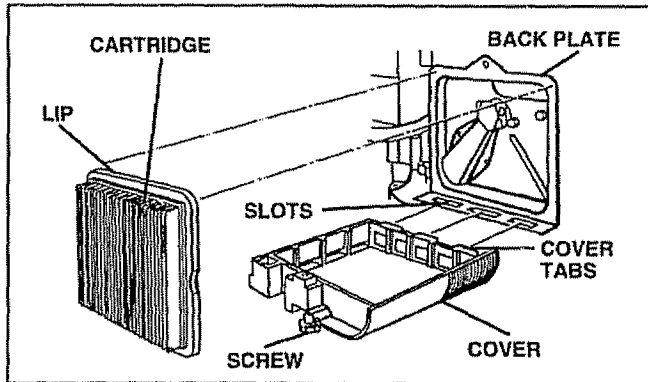

FIG. 11
**TO SERVICE AIR FILTER** (See Fig. 11)